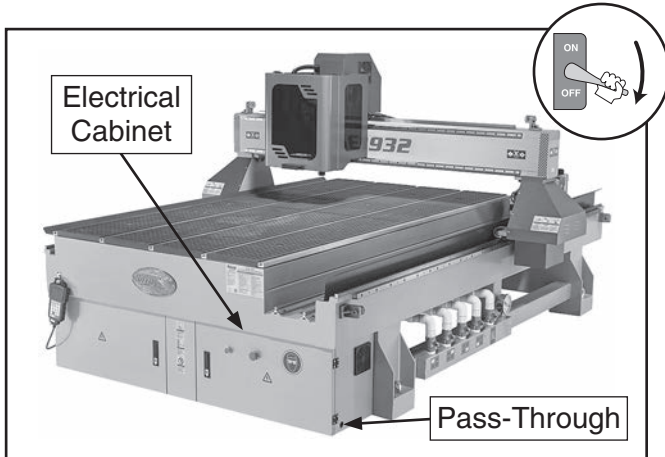

Figure 35. Model G0932 electrical cabinet and pass-through location.
2. Open Model G0932 electrical cabinet and route incoming power wires through cabinet pass-through (see **Figure 35**).